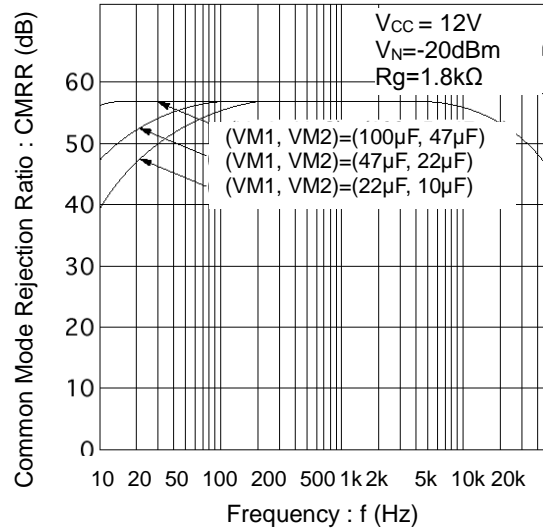

Figure 10. Common Mode Rejection Ratio vs Frequency
- 14. Setting the capacitor value to twice or half will make CMRR +6dB or -6dB respectively (Figure 10) in the low frequency range.